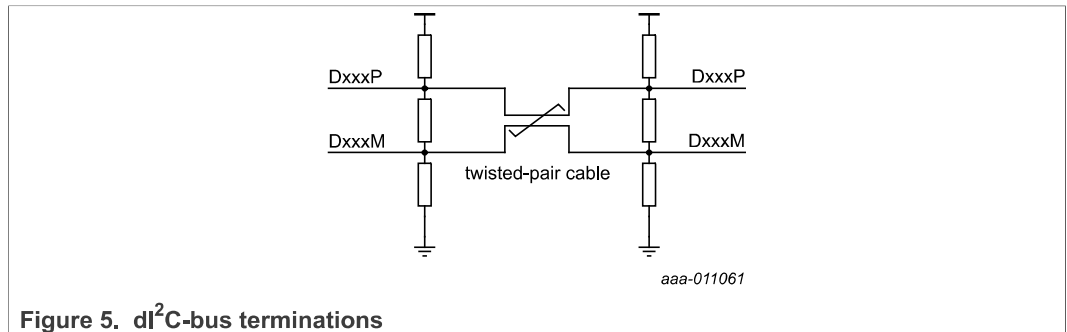

Figure 5. dl2C-bus terminations
The dI2C-bus side of the PCA9614 is powered from the VDD(B) supply pin. The dI2C-bus is also biased to an idle state (D+ more positive than D-) to be compatible with the I2C-bus/SMBus wired-OR scheme, when not transmitting traffic (data). This allows every node to receive broadcast messages from the Controller, and return ACK/NACK and data in response. Biasing is done with additional resistors, connected to VDD(B) and VSS (the local ground), as shown in Figure 5. The transmission line is terminated in the characteristic impedance of the cable, typically 100 Ω. This is the value defined by three resistors, the other two resistors providing the idle condition bias to the twisted pair.